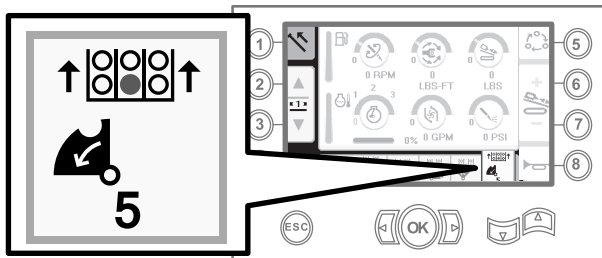

Figure 19
10. Release the rocker switch to proceed to the next step in the sequence (Figure 19).